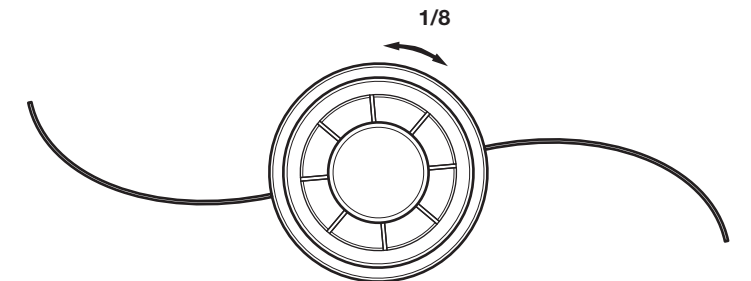

Fig. 7
**IF...** the lower shaft housing does not enter the coupler completely and the holes do not align, remove the lower shaft housing, rotate the cutting head slightly (1/8th turn) and repeat step 4 (Fig. 7).